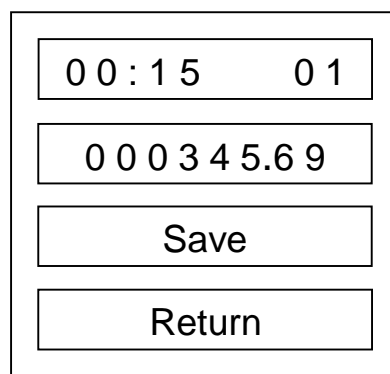

Figure 6. **Result** screen
- f. Insert the sample tube and touch the “**Measure**” tab to start the sample measurement. The measurement result will be displayed on the “**Result**” screen in a few seconds, as shown in Figure 6. The timer clock will start from zero so you can do a follow-up measurement after a certain time. NOTE: *If doing repeat measurements of the same sample, wait a minimum of 10 seconds between measurements.*